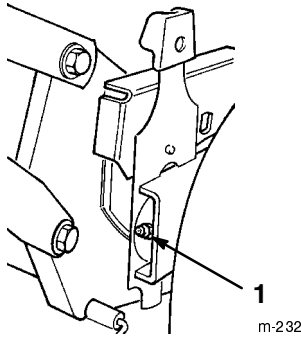

Figure 21
- Wipe the grease fittings with a clean rag (Fig. 21).
- Install a grease gun onto the fitting and gently apply two or three pumps of #2 multi-purpose lithium base grease (Fig. 21).